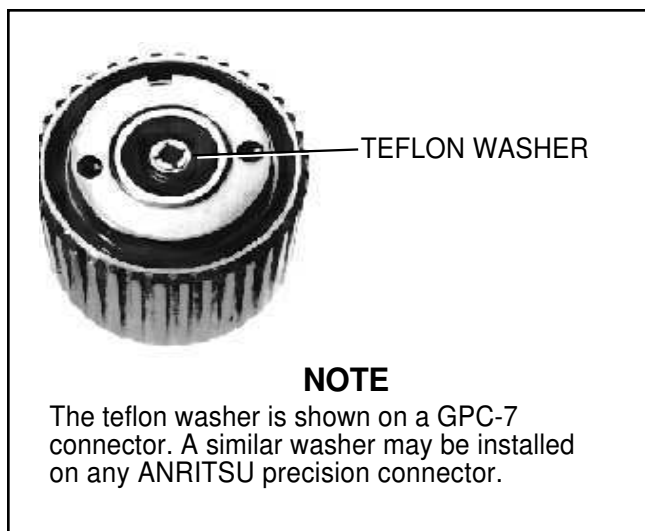

Figure 4. Tuning Washer on GPC-7 Connector
- e. Do Not Disturb Teflon Tuning Washers on Connector Center Pins.** The center conductor of many RF component connectors contains a small teflon tuning washer that is located near the point of mating (Figure 4, page 4). This washer compensates for minor impedance discontinuities at the interface. *Do not disturb this washer.* The location of this washer is critical to the performance of the RF component.